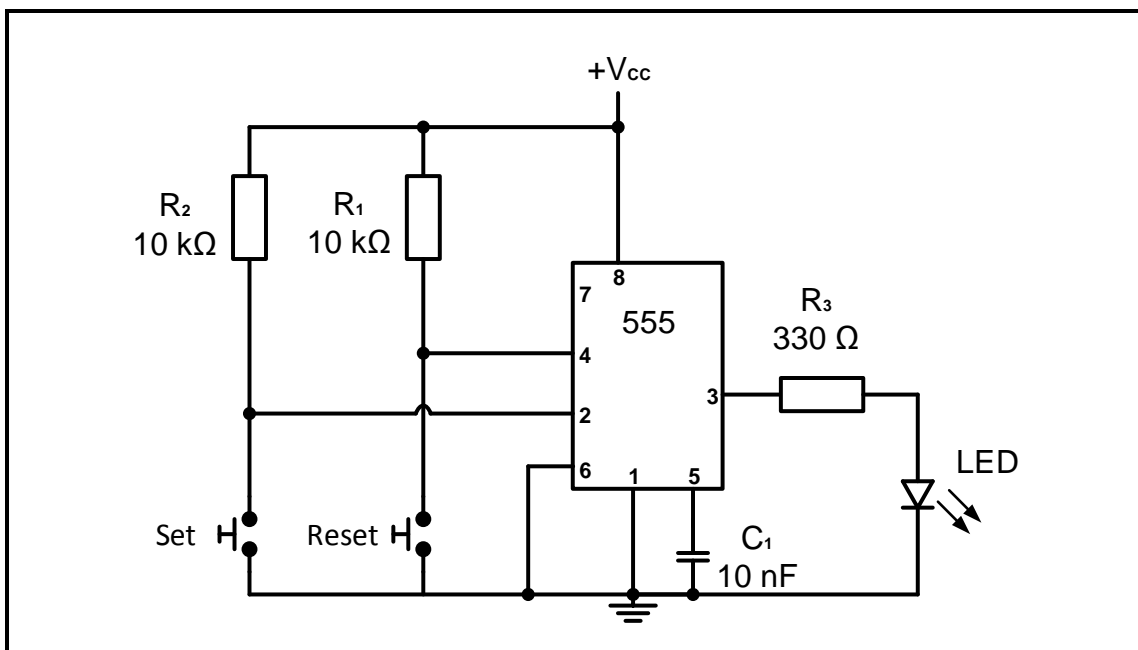

FIGURE 3.4: 555 IC BISTABLE MULTIVIBRATOR
3.4 Refer to FIGURE 3.4 below and answer the questions that follow.